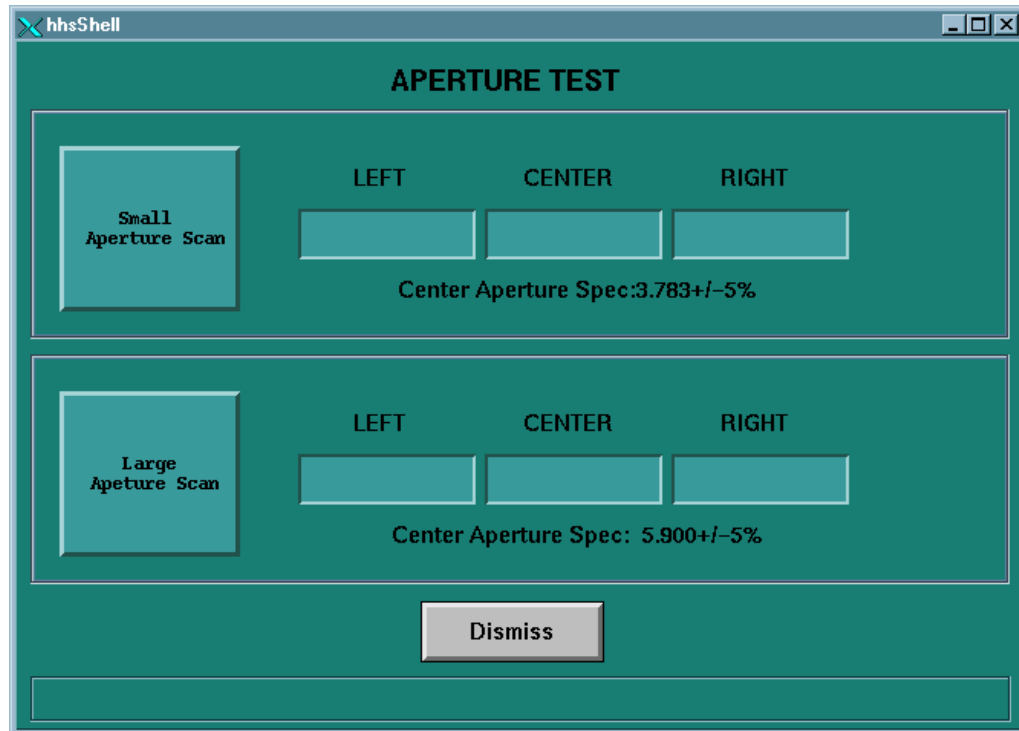

Figure 10-2 Collimator Aperture Test Screen
- 6.) Select SMALL APERTURE SCAN to display a scan protocol window, and start gantry activity (refer to Figure 10-2).
- 1.) Select LARGE APERTURE to display a scan protocol window, and start gantry activity (Refer to Figure 10-2).